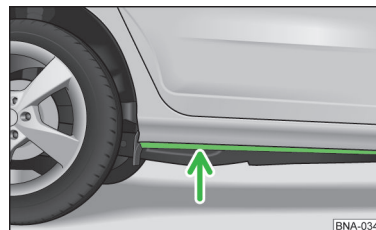

Fig. 67
- Therefore determine the depth of the water before driving through bodies of water. The water level must not go above the web of the lower beam » fig. 67.